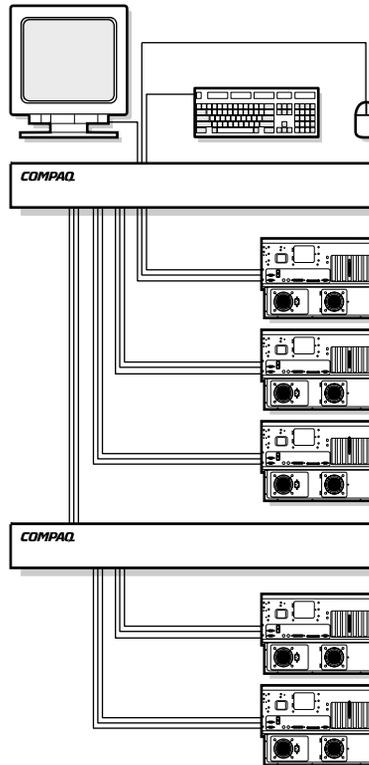

Figure 1-2. Tiered configuration
- You can tier multiple Server Console Switch units to connect up to 64 servers. This configuration is illustrated in Figure 1-2, where the device port from the secondary unit is connected to one of the computer ports on the original, or primary unit. Multiple Server Console Switch units can be tiered from the primary unit.